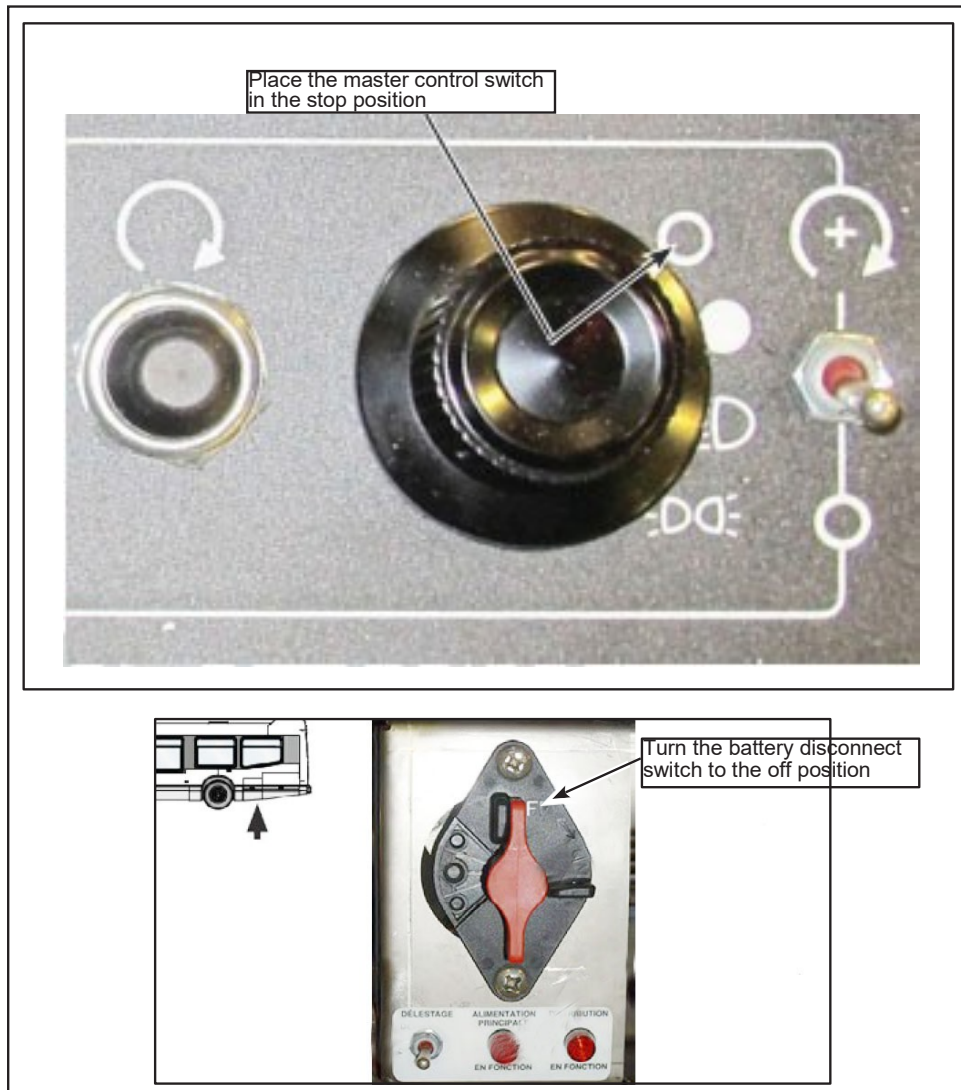

Figure 1 - Place the Master Control Switch and the Battery Disconnect Switch in the Stop Position
- 1.2. Place the master control switch and the battery disconnect switch in the off position. Follow your local lock-out procedure (see Figure 1).